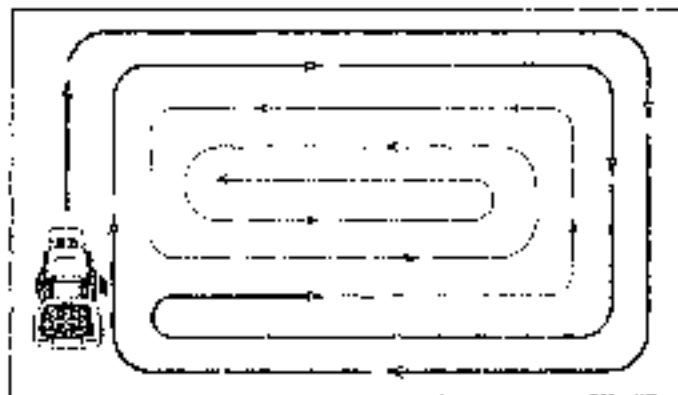

FIG. 9
- Use the runner on the right hand side of mower as a guide. The blade cuts approximately an inch outside the runner. (See Fig. 9).
- When mowing large areas, start by turning to the right so that clippings will discharge away from shrubs, fences, driveways, etc. After one or two rounds, mow in the opposite direction making left hand turns until finished (See Fig. 9).